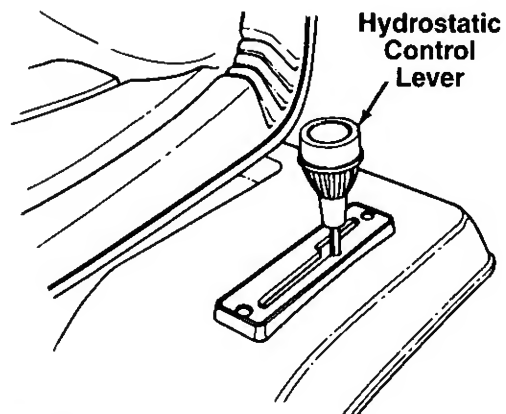

FIGURE 14.
The hydrostatic control lever is located on top of the fender on the left side of the tractor. This single control lever, connected to the hydrostatic transmission, controls both the speed and direction of the tractor. Infinite speed control is achieved by moving the control lever forward or backward. The farther forward or backward you move the control lever, the faster you will travel. Pulling the control lever into neutral (N) area will stop the tractor. To increase rear wheel torque (pulling power), move the control lever towards neutral (N) position. The lawn tractor responds similar to shifting to a lower gear with a gear type transmission. See figure 14.